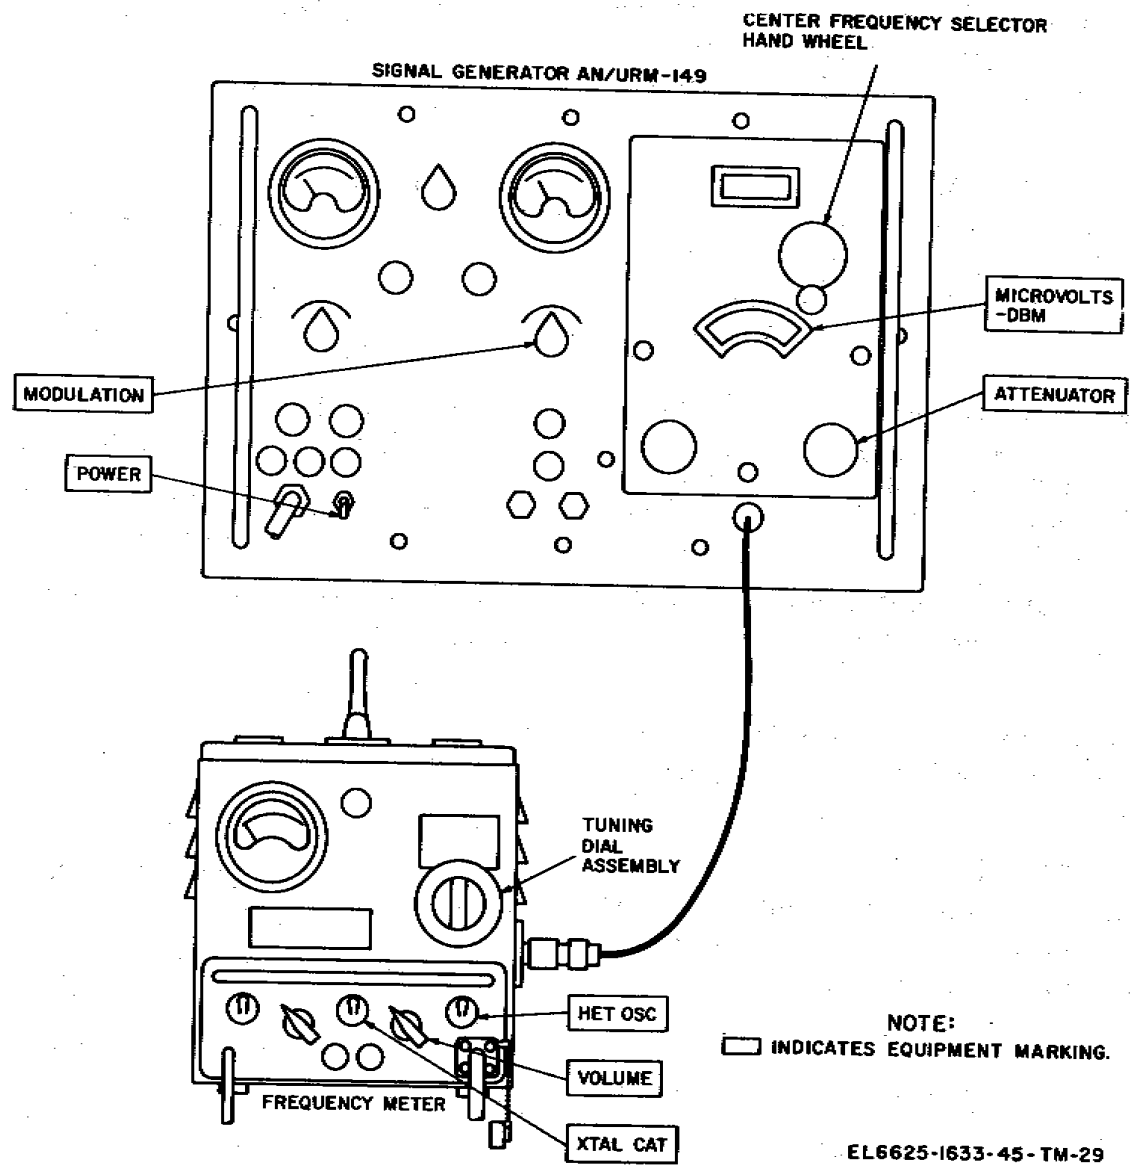

Figure 5-1. Rf output frequency, test setup diagram.
a. Connect the equipment as shown in figure 5-1.